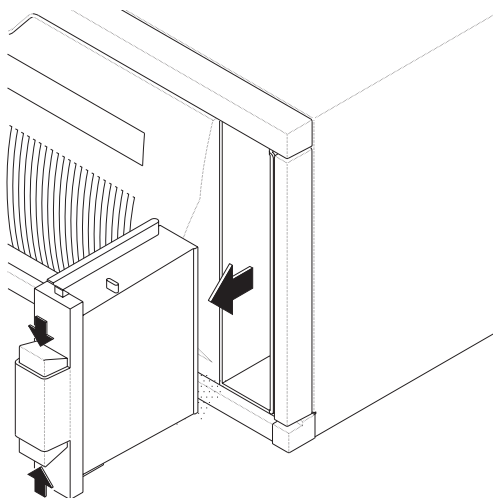

Figure 4-5 Removing the entry/exit port caddy
6. Press the top and bottom buttons to release the entry/exit port caddy, then pull it out, as shown in Figure 4-5.